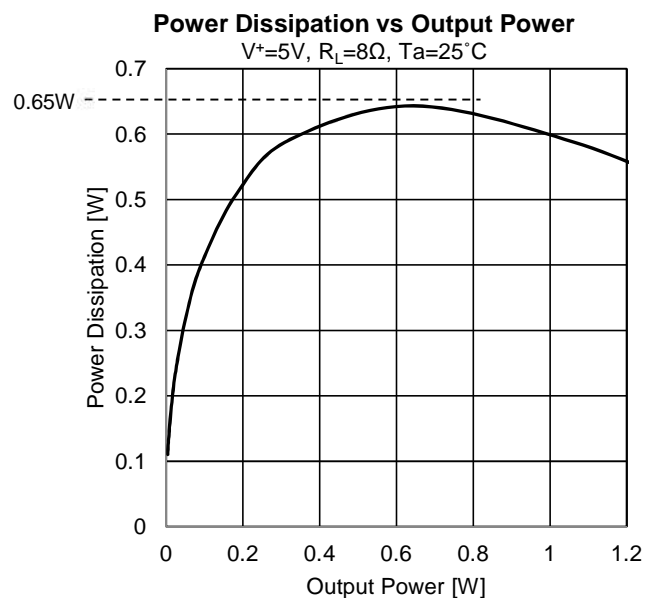

Fig. 19 Power Dissipation vs. Output Power
In the designing, power dissipation (P) should be verified in the using but temporary value is read by Power Dissipation vs Output Power on the datasheet's typical characteristics. Fig.19 shows typical characteristics under the conditions that Ta=25°C, V+=5V, Gv=+6dB and RL=8Ω BTL. The following are examples.
Maximum ambient temperature Ta is set by the following under the conditions that V+=5V, RL=8Ω BTL and maximum output power Po=1.2W because maximum power dissipation (P) is approximately 0.65W by Fig. 19.
Maximum output power (Po) is gotten approximately 0.2W or under by Fig. 19 under the conditions that V+=5V, RL=8Ω BTL, PD=0.5W and Ta=60°C.